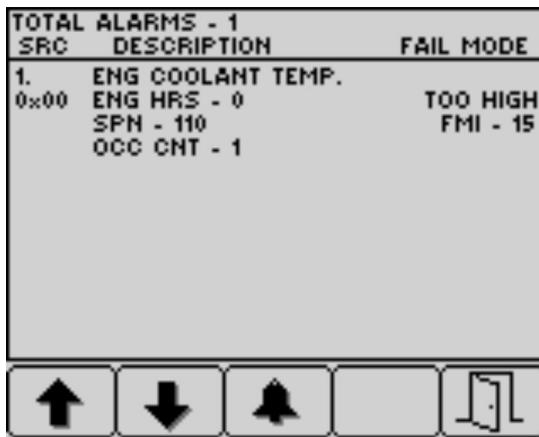

Figure 36
4. Press button 5 to exit the active fault list and return to the home screen (Figure 36).
- Press button 5 to exit the active fault list and return to the home screen; refer to Figure 36 in Engine Advisories Messages \(page 32\).